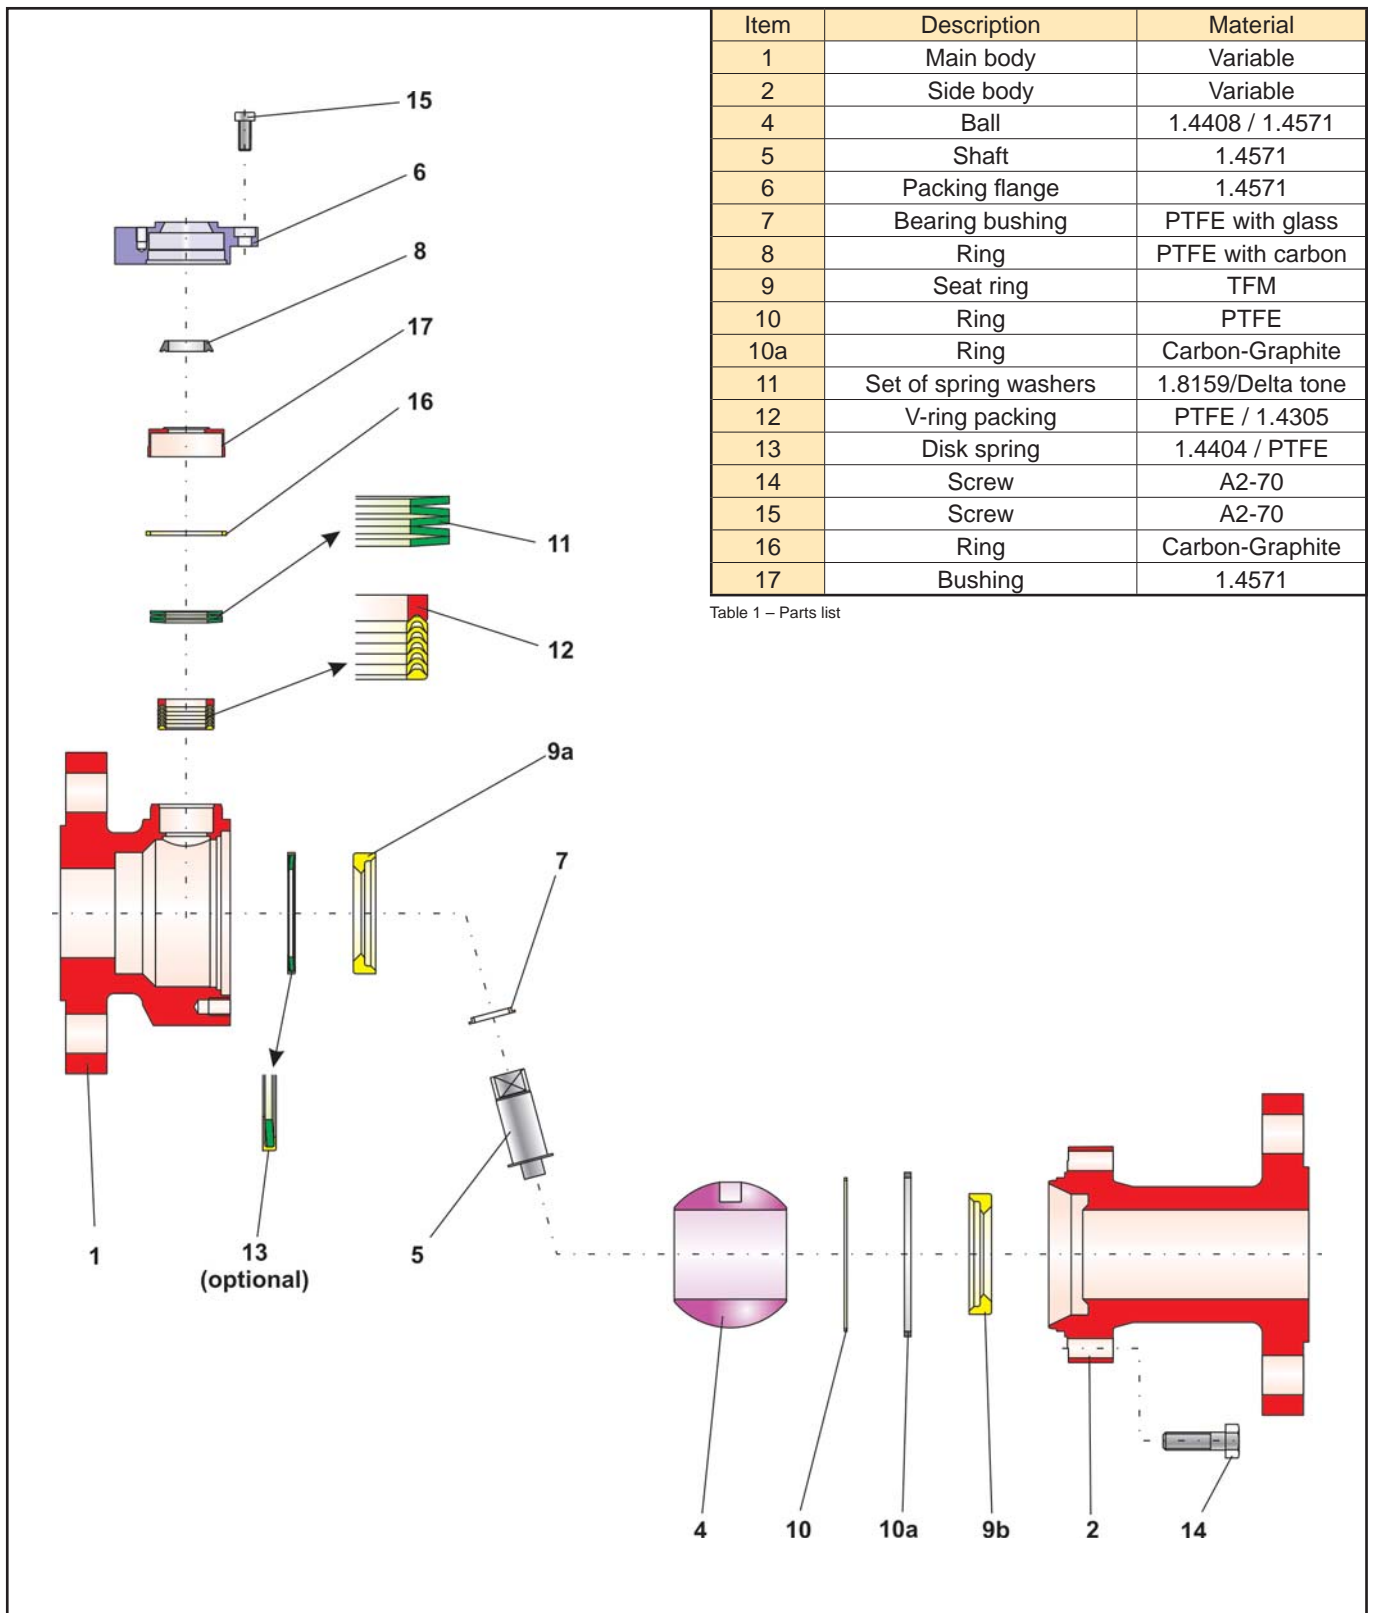

Fig. 4 - Detail drawing of fire-safe version of Series 26a Ball Valve
Insert the encapsulated disk springs (13) into the main body (1). Refer to Fig. 4 for the arrangement of the disk springs. Press in the seat ring (9a) until it touches the disk springs.
Slide the parts of the V-ring packing (12), turning them slightly, over the mounted shaft (5) and insert them into the packing seat of the main body (1). Refer to Fig. 4 for the arrangement of the V-rings.
Stack the spring washers (11) on the packing. Refer to Fig. 4 for the arrangement of the spring washers.